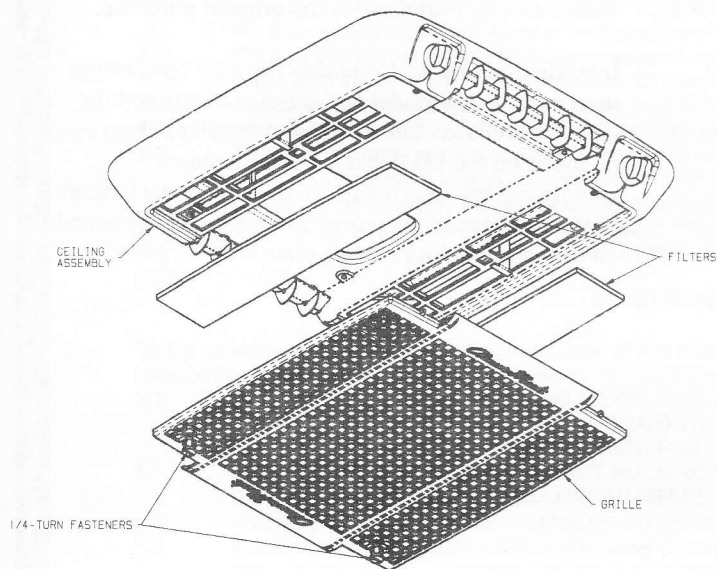

FIGURE 2
1. Disengage the two 1/4 –turn fasteners that secure the ceiling assembly grille to the ceiling assembly (See Figure 2).
3. Take filters out and either clean or exchange with other filters (See Figure 2).